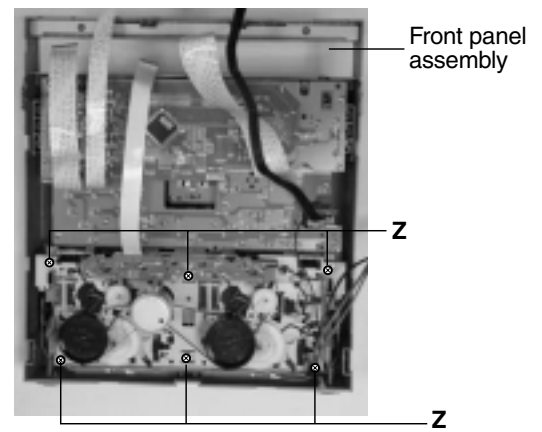

Fig.19
■ **Replacing the CD turn table and removing the motor (See Fig. 19)**
■ Removing the cassette deck mechanism (See Fig.19)
■ Removing the cassette deck main motor, and replacing the main belts (See Fig.19, 24 and 25)
1. Remove six screws **Z** retaining the cassette deck mechanism. (Fig.19)
■ Removing the leaf switches of the cassette deck mechanism (See Fig. 19 and 26)
1. Remove the six screws **Z** that retain the cassette deck mechanism. (Fig.19)
■ Removing the cassette deck heads (See Fig. 19 and 27)
1. Remove six screws **Z** that retain the cassette deck mechanism. (Fig.19)